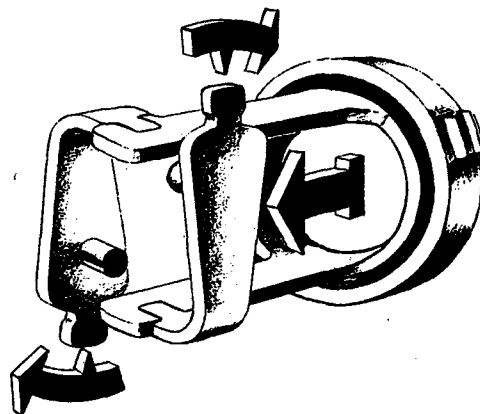

Figure 4—Actuator Assembly and Control Arms
f. CONTROL ARMS.—The control arm has a close-tolerance pivot that fits into a bearing in the hub barrel. One end is machined to fit into the slot in the end of the actuator. The other end is machined to fit into a slot in the base of the propeller blade. The control arm changes the longitudinal motion of the actuator to co-axial motion at the base of the blade. This motion changes the pitch of the blade, as illustrated in figure 4.